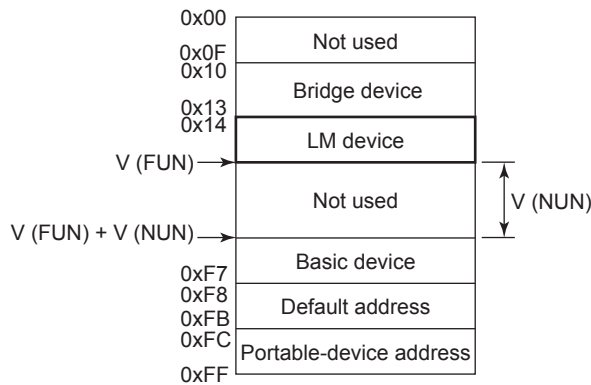

Figure 3 Node Address Ranges
- (3) In the LAS settings of the FLXA21, set the values of V(FUN) and V(NUN) so that they include the node addresses of all nodes within the same segment. (See also Figure 3.)